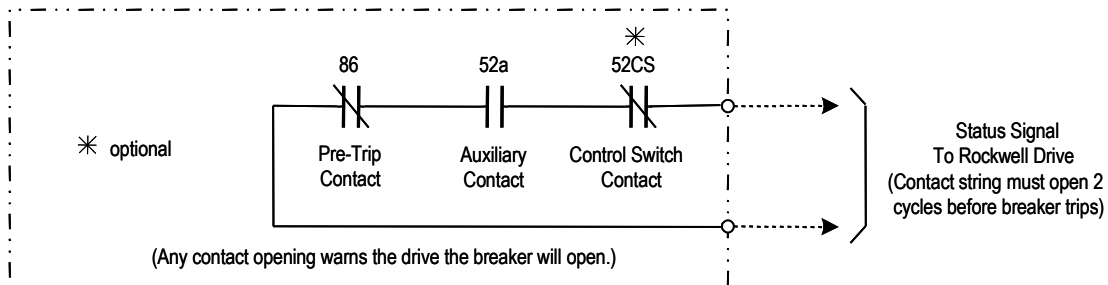
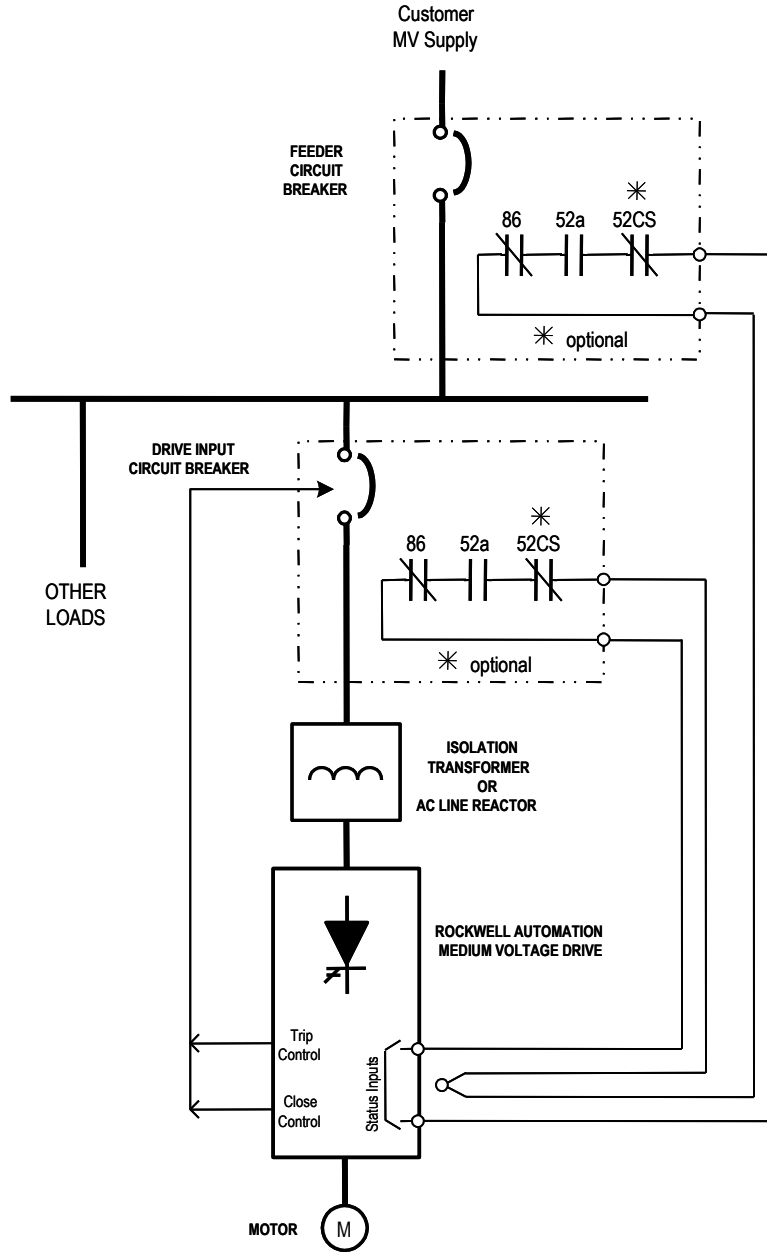

Figure 4 – Typical Breaker Status Contacts Required by the Rockwell Automation Drive
Figure 9 – Providing Feeder Circuit Breaker Status Feedback to the Rockwell Medium Voltage Drive
The drive must monitor the condition of the circuit breaker and know in advance when the breaker is about to open. This will give the drive time to electronically reduce the current through the power semiconductors and the DC Link Reactor before the power poles in the breaker interrupt the current. This will provide a safe and orderly shutdown of the system. To accomplish this shutdown sequence, the drive **must** receive a status line from the breaker that opens a minimum of 2 cycles before the main power poles of the circuit breaker start to open. Figure 4 shows the recommended arrangement to use. The status line consists of three contacts in series. They are composed of an 86 lockout relay contact, a power pole auxiliary contact, and an optional control switch contact.
- b) **52 Contact:** Shown in series with the 86 lockout relay contact is a power pole auxiliary contact – designated as a '52' contact. The 52 contact shown in Figure 4 is typically from a switch that is physically mounted on the breaker frame and mechanically tied to the main primary interrupting contacts (i.e. the power poles) on the breaker.
The contacts are often referred to as a/b contacts. The ‘a’ contacts follow the breaker main contacts, i.e. when the breaker is open the ‘a’ contacts are open; when the breaker is closed so are the ‘a’ contacts. The ‘b’ contacts are the opposite. In this terminology the 52 contact shown in Figure 4 is an ‘a’ contact and is shown as ‘52a’. It must open prior to or at the same time as the power pole opening – not after the power pole opens.
This contact has various names in the industry. Sometimes it is referred to as a Stationary Contact (STA), a 52STA stationary contact, an a/b contact and as a Mechanism Operated Contact (MOC). When selecting the contact to use, its description of operation must match the description above. The contact provides a warning to the drive when the breaker power poles open by any means not shown in Figure 4 (e.g. manual trip or internal device failure). Rockwell Automation refers to this contact on their drive schematics as an ‘auxiliary contact’ because it is a control rated contact that operates with the power pole contact.
- c) **52CS Control Switch Contact:** When a control switch is used, it is recommended that a contact from this switch be added in the status feedback line as shown in Figure 4. The contact should open when the control switch is moved to the Trip position. This contact will give the drive an advance notice that the circuit breaker is about to open.
The contacts shown in Figure 4 must have not have any power on them from the circuit breaker. They are often referred to as ‘dry’ or ‘clean’ contacts. They will be wired back to a voltage source in the drive (typically 110VAC or 120VAC). Current draw will be signal level only. Refer to section 7.0 for variations on deriving the status contacts from the circuit breaker.
If a 2 cycle advance notice from the feeder breaker is used, it can be done by connecting a contact string from the feeder breaker that consists of the contacts shown in Figure 4 to the drive. These contacts will connect in series with the advance notice contacts from the drive input unit as shown in Figure 9.